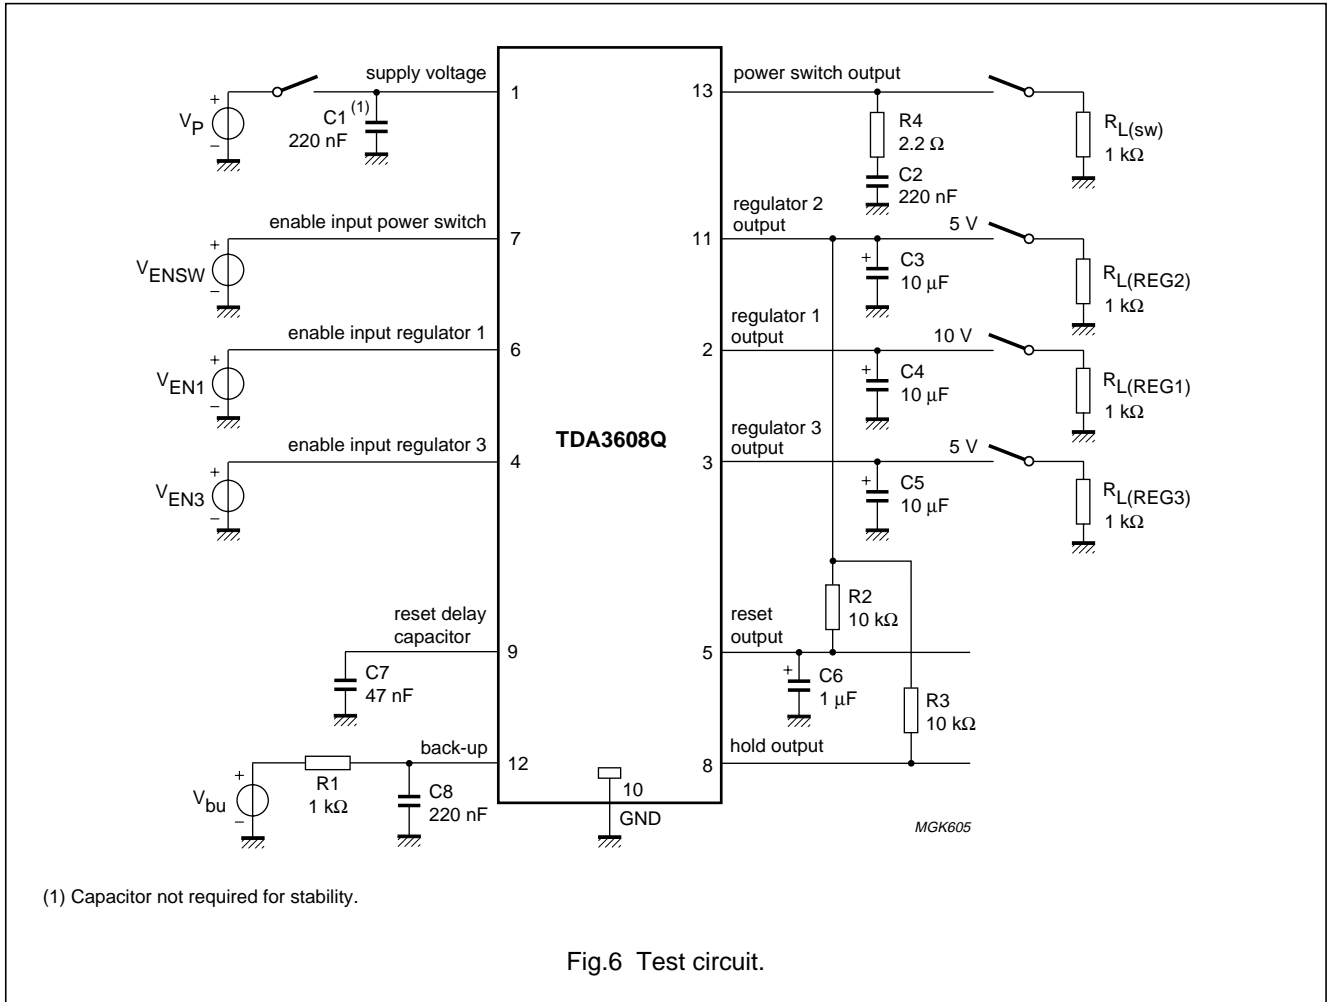

Fig.6 Test circuit.
2. The quiescent current is measured in the standby mode. So, the enable inputs of regulators 1, 3 and the switch are grounded and  $R_{L(REG2)} = \infty$  (see Fig.6).